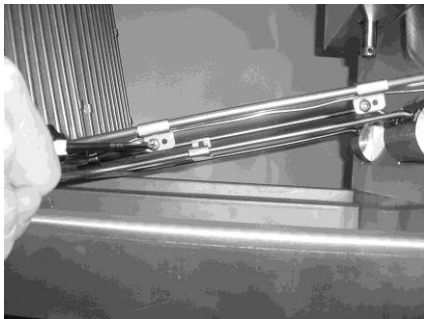

Figure 2-67
2. Remove capillary from brackets on upper part of element. Figure 2-67.